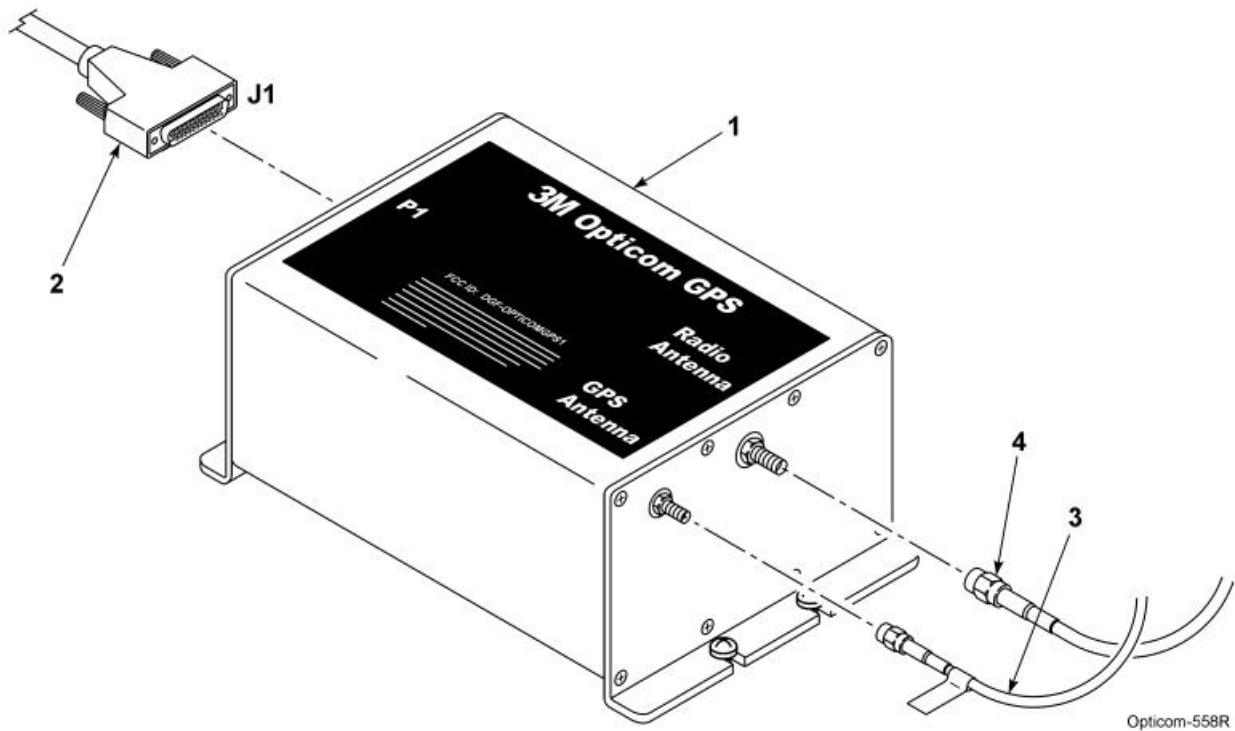

Figure 5-3. Radio/GPS Cable Installation
2. Drill a 5/8 to 3/4-inch hole. See Figure 5-3.